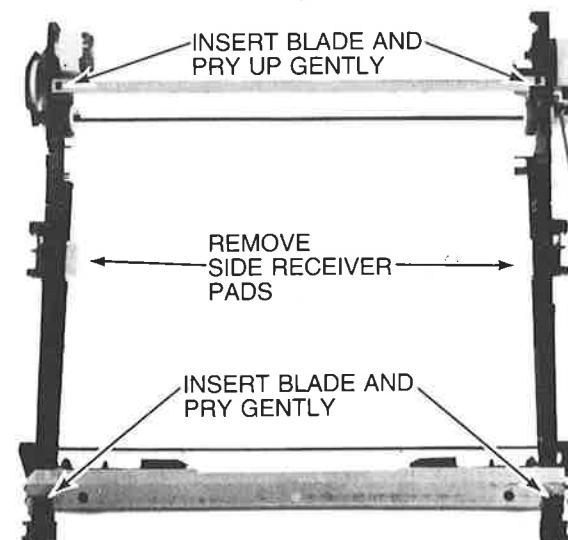

Fig. 18—Guide Rail Assembly
- To separate the Left and Right rail assemblies the cabinet support bracket (Fig. 18) and the pivot support bracket (Fig. 18) must be removed.